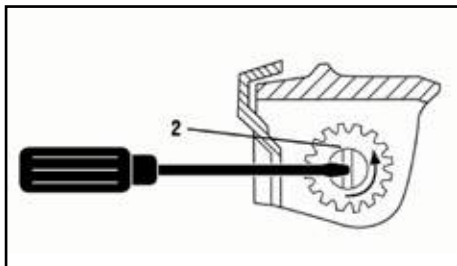

FIG 8.
- ii. Release the handbrake to the fully off position. If the handbrake will not go down the whole way because of the fairing or any other obstruction; then the fairing must be cut away and/or the obstruction removed to achieve this desired position. It will not be possible to set up the braking system properly when the handbrake is not in the fully off position (fig. 8).
- iv. Remove the inner plastic bung from the backplate to expose the "star-wheel" adjuster access (FIG. 8).
- v. Always rotating the road wheel in the forward direction-never backwards, adjust the star-wheel with a suitable screwdriver, in the direction of the arrow embossed on the backplate until there is resistance in the wheel rotation (fig. 8).
- vi. Slacken off the star-wheel adjuster until the road wheel turns freely in the forward direction (fig. 8).
- xi. Remove the slack in the brake rod by adjusting the long ball nut, rear of the balance bar, ensuring the overrun lever makes contact with the end of the towing shaft. Over-adjustment to the long ball nut (Fig.10) could induce movement of the inner brake cable, reducing the effective clearance of the brake shoes. If the overrun lever will not make contact, it is possible the two lock nuts, forward of the spring cylinder, are incorrectly adjusted. Loosen the nuts and adjust the brake rod as above (Figs. 8 and 10).